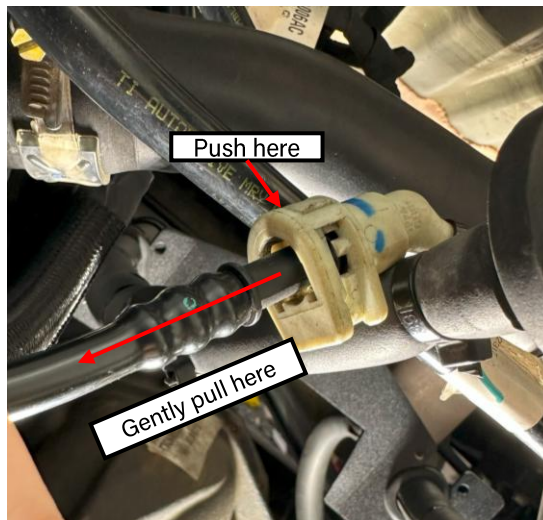

Figure 9: Filler breather connection
- Remove the filler breather by removing the blue, plastic retaining clip and gently pushing down on the spring on the back of the connection (Figure 9)